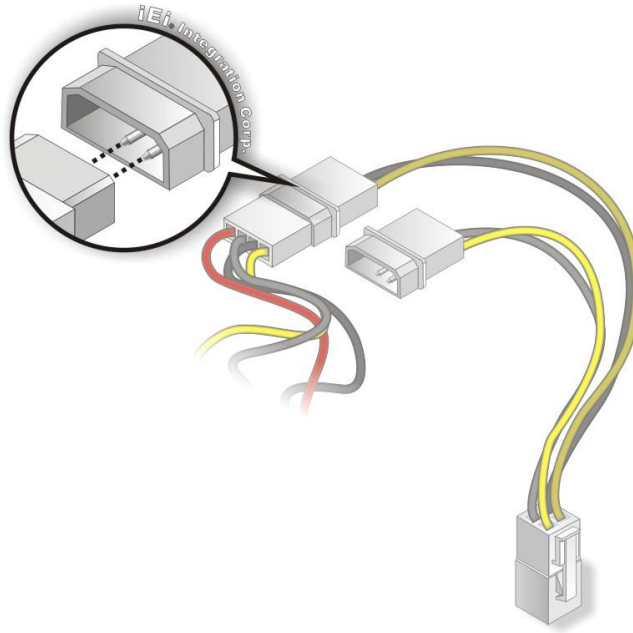

Figure 4-4: Connect Power Cable to Power Supply
Step 3: Connect power cable to power supply. Connect one of the 4-pin (1x4) Molex type power cable connectors to an AT power supply. See **Figure 4-4**